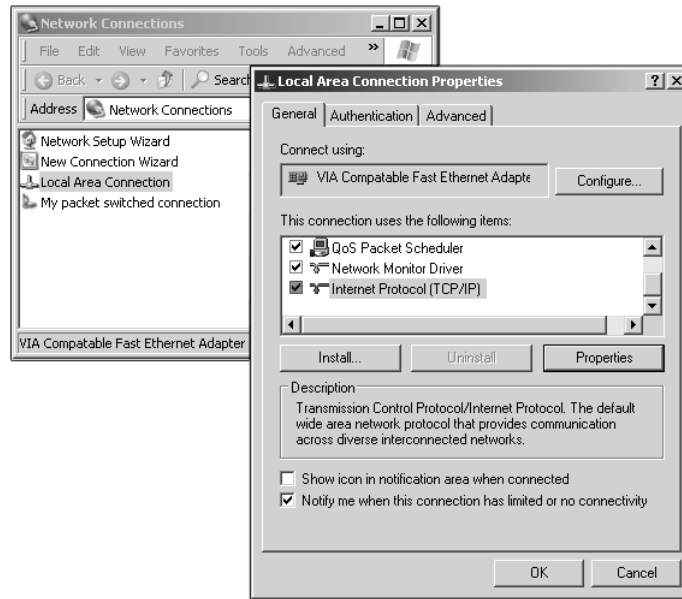

Figure 16-3: Changing the IP address of an Ethernet card
2. Select the connection for your Ethernet card (the default is Local Area Connection) to bring up a window similar to that in Figure 16-3.